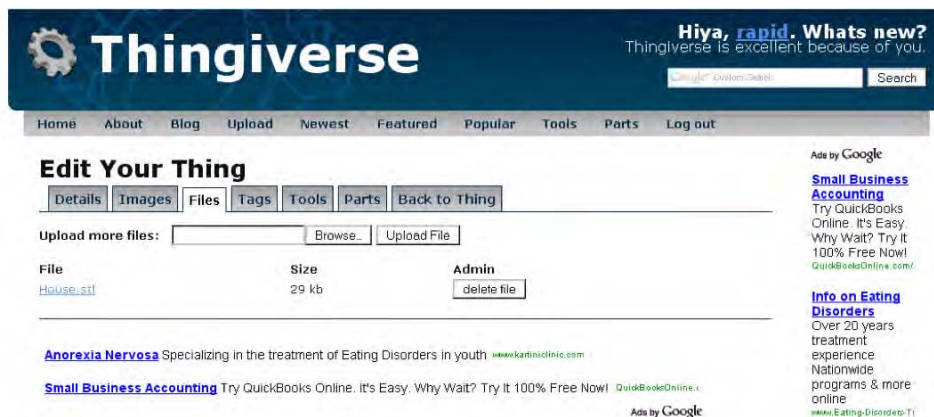

Figure 9–34. Edit upload page
2. After adding the model, click the Upload File button. The Edit Your Thing page will appear with a selection of seven tabs, as shown in Figure 9–34.